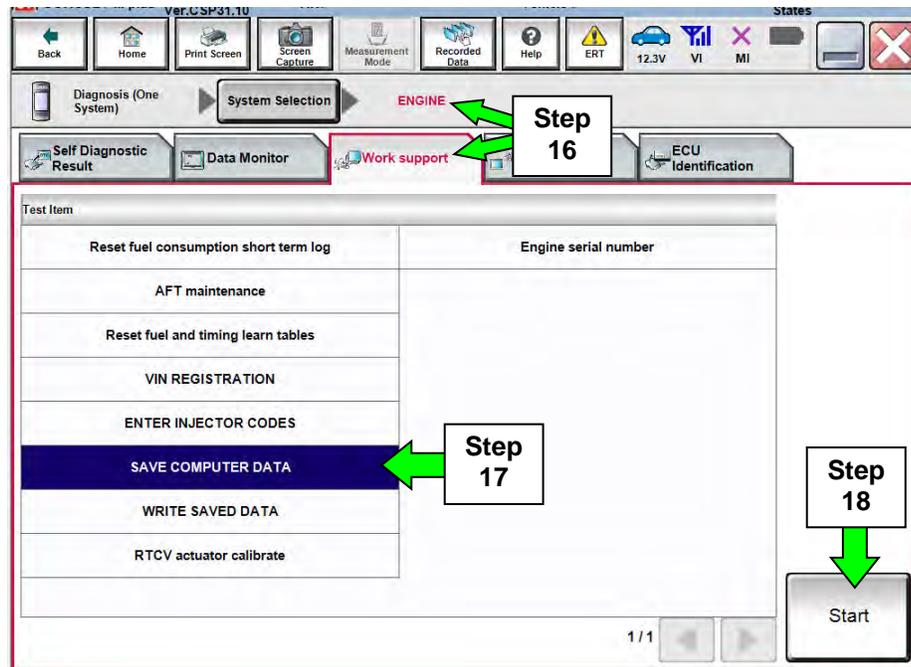

Figure 20
16. Navigate C-III plus to **ENGINE**, and then to **Work support** (see Figure 20).